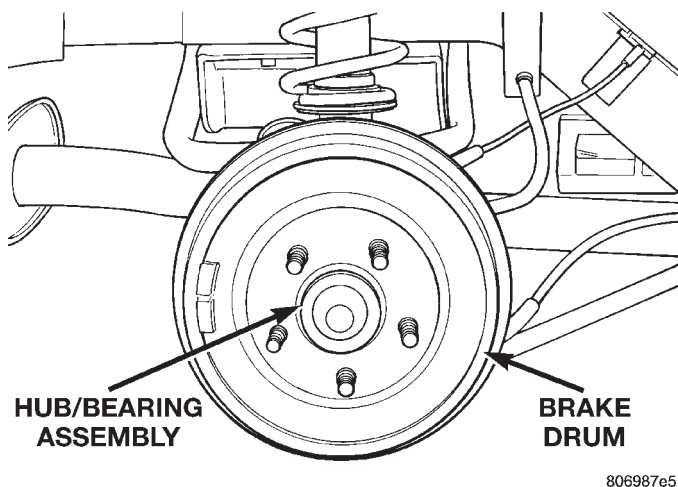

**Fig. 59 Rear Brake Drum Assembly**
- (1) Raise vehicle on jackstands or centered on a hoist. See Hoisting in the Lubrication and Maintenance section of this manual.
- (2) Remove the rear wheel and tire assemblies from the vehicle.
- (3) Remove rear brake drum to hub retaining clips (if equipped). Then remove rear brake drum from hub and bearing assembly (Fig. 59).